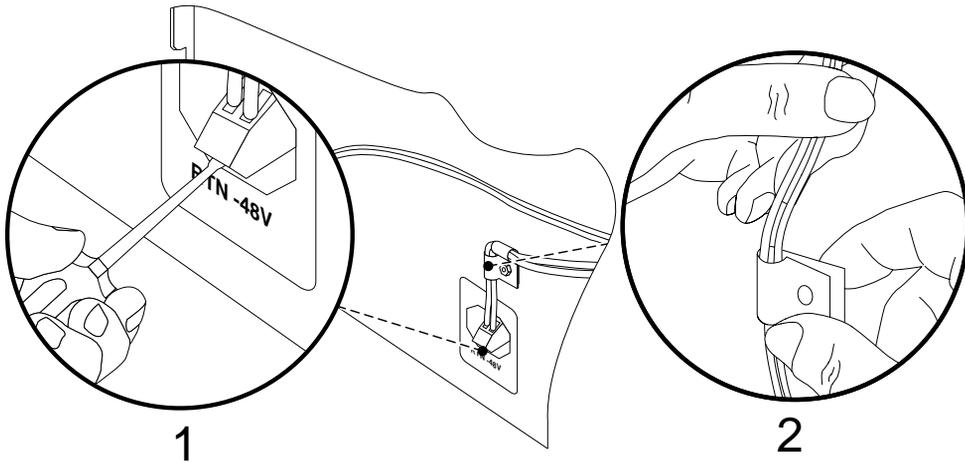

Figure 10. Attaching the Red and Black Wires and Strain-Relief Retaining Clamps to the Terminal Block
- 4 Insert the bare ends of the red and black wires into the openings in the terminal block on the rear of the chassis housing, placing the red wire into the opening labeled -48V and the black wire into the opening labeled RTN, as shown in Figure 10.
- 6 Place two strain-relief retaining clamps around the wire (also shown in Figure 10), push the two clamps positioned at right angles onto the threaded stud, and securely attach the nut to the stud with a nut driver.